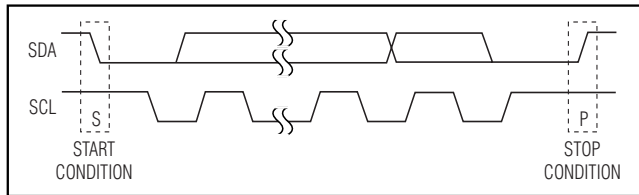

Figure 3. Start and Stop Conditions
Each transmission consists of a START condition (Figure 3) sent by a master, followed by the MAX6965 7-bit slave address plus R/ $\overline{\text{W}}$ bit, a register address byte, one or more data bytes, and finally a STOP condition (Figure 3).
Both SCL and SDA remain high when the interface is not busy. A master signals the beginning of a transmission with a START (S) condition by transitioning SDA from high to low while SCL is high. When the master has finished communicating with the slave, it issues a STOP (P) condition by transitioning SDA from low to high while SCL is high. The bus is then free for another transmission (Figure 3).